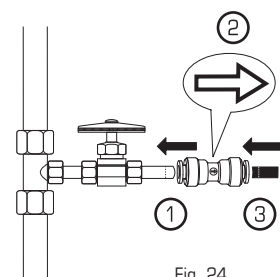

Fig. 24
6. **Connect** the tube from the cold water supply to the screen side of the Supply Connector (1). Arrow in balloon shows water flow direction (2). Insert the RED tube attached to the Auxiliary Faucet into the opposite end of the Supply Connector (3) (Fig. 24).